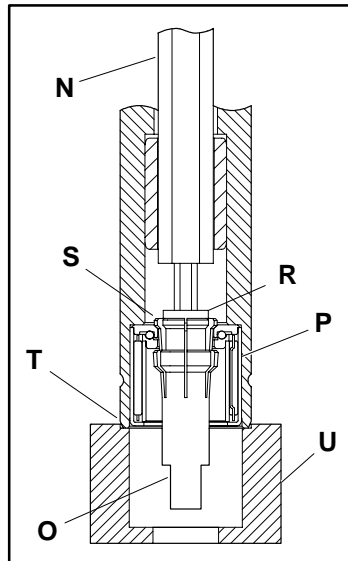

Figure 24
3. While holding the hex key wrench extension tool (N of Figure 24), rotate bearing removal tool using flats (O) to tighten the bearing removal tool's tapered screw (R) until the flair (S) of the tool is completely spread open behind the bearing (P).